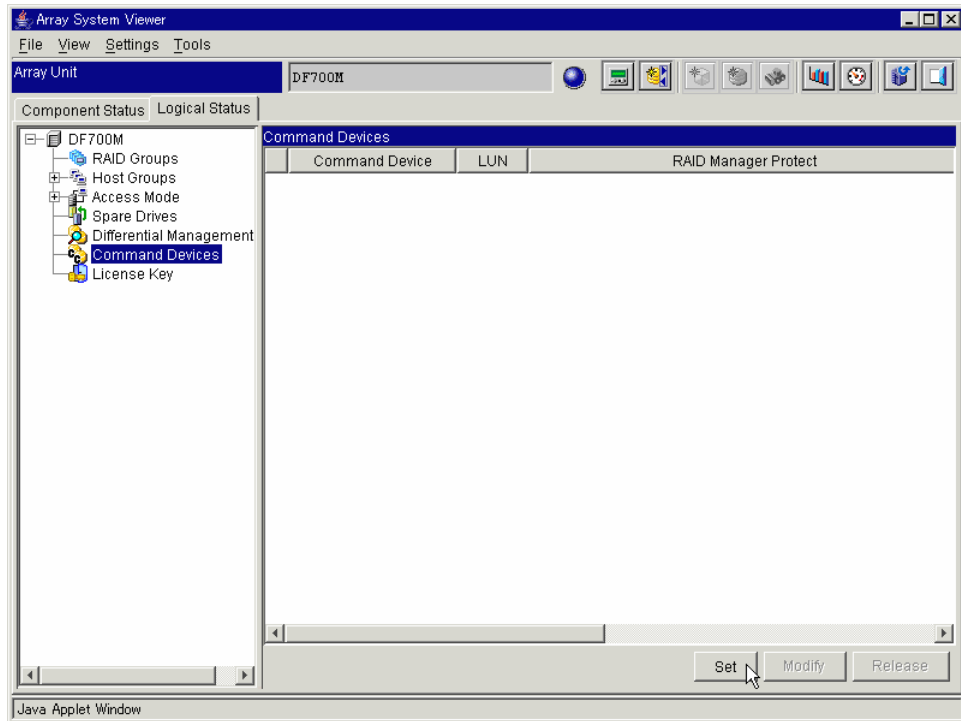

Figure 6.13 Array System Viewer - Command Devices
1. Click the **Logical Status** tab on the **Array Unit** screen. See Figure 6.13.